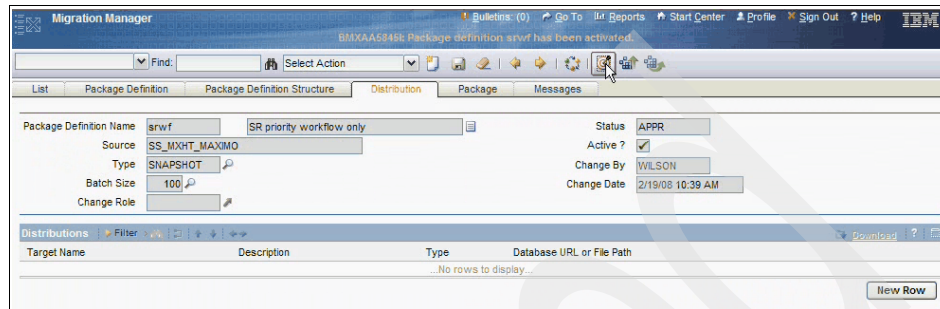

Figure 8-30 Manage package definition targets
14. The last step in package definition is defining all possible targets for the package. Click the **Manage Targets** button in the button bar in the window, as shown in Figure 8-30. You can also select the **Manage Targets** action from the Select Action menu.